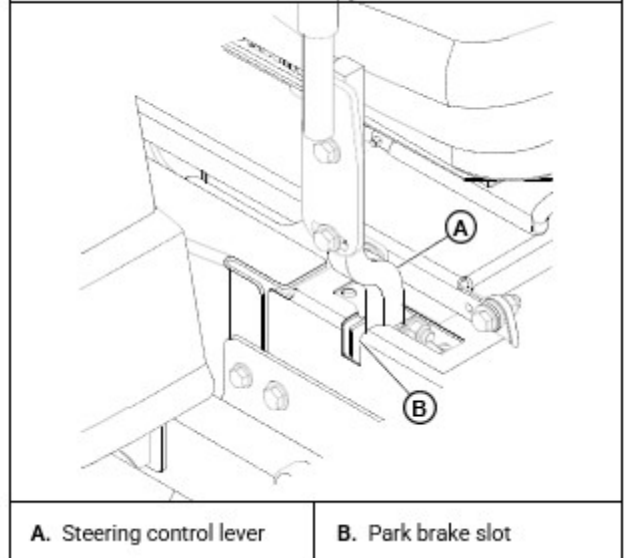

Figure 2
5. Position the steering control lever in the neutral position and observe which way the wheels are rotating. [Figure 2]